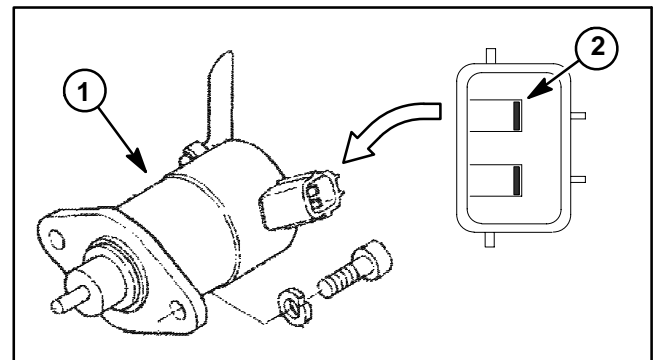

Figure 28
- B. Use a multimeter to make sure that continuity exists between the wire harness connector at the starter and the engine fuel stop solenoid connector for the solenoid pull coil (Fig. 28 – yellow wire).